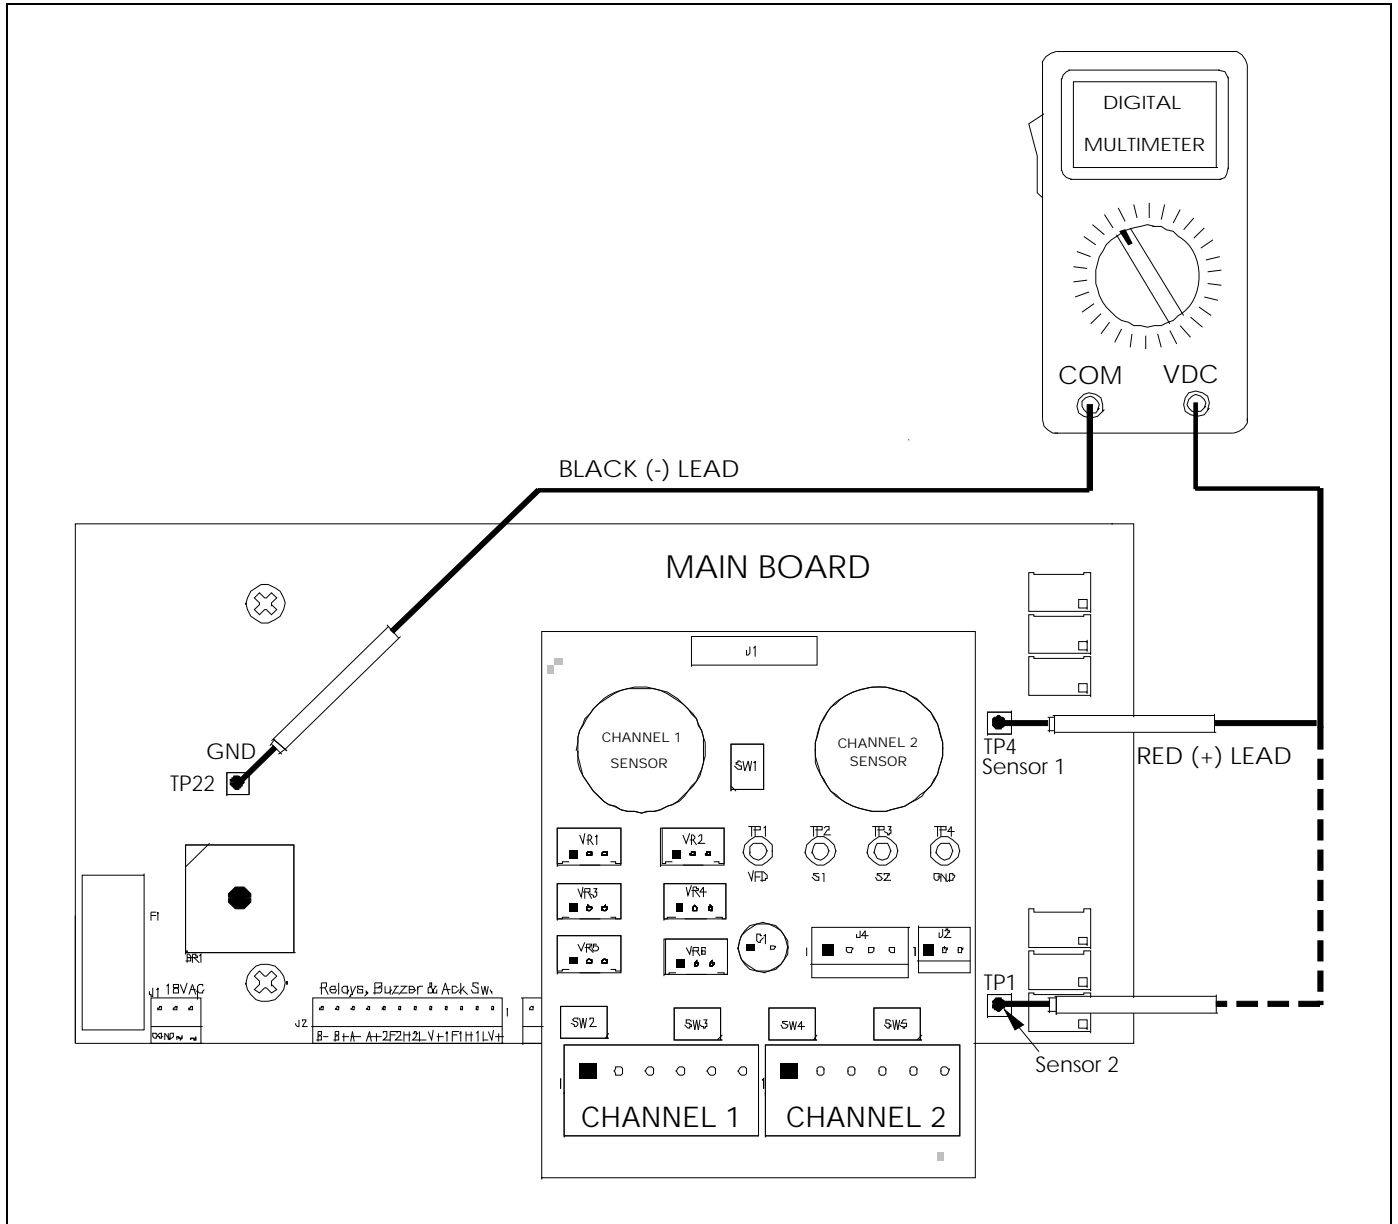

Figure 5-5: AMC DSI Test Points and Trimpots
Figure 5-5 illustrates the test points used to calibrate the on board sensors and VFD. Table 5-9 details the function of the test points.
Refer to the Figure 5-5 for DSI Layout, to perform the following calibration procedure:
2. Attach the multi-meter as shown in Figure 5-5.